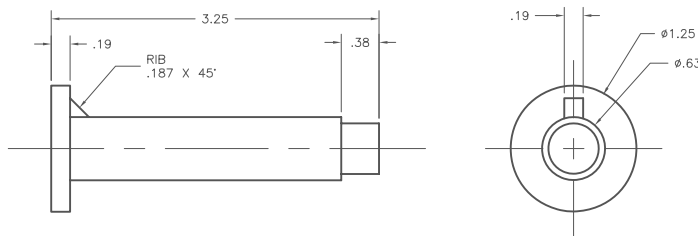
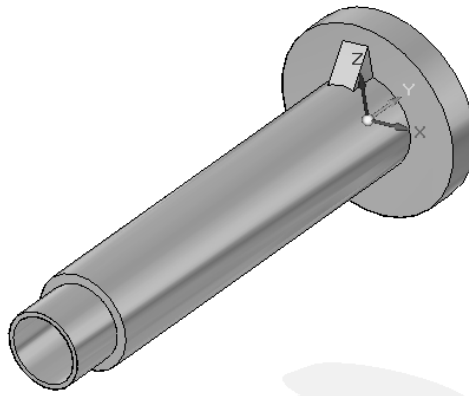

Figure 12-46 The drawing views to be created
Figure 12-47 Model for Exercise 1
In this tutorial, you will create the drawing views shown in Figure 12-46 in AutoCAD. You can also download this drawing file from <http://www.cadcam.com>. The path of the file is as follows: *Textbooks > CAD/CAM > Solid Edge > SolidEdge ST3 for Designers*. Next, you will evolve a 3d model from these drawing views, as shown in Figure 12-47. Finally, you will save the 3D model with the name *c12tut3.par* at the location given below.
- Create the extrusion features using both the drawing views, refer to Figure 12-47 and 12-48.
You will create the drawing views, as shown in Figure 12-46, in AutoCAD.